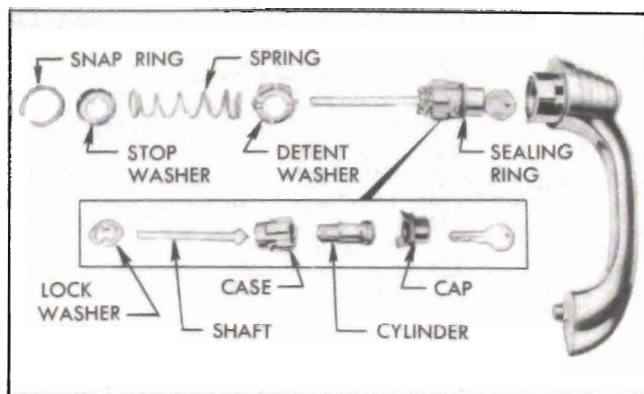

Figure 13-5—Handle and Outside Safety Lock
2. Remove retaining snap ring, then remove stop washer, spring, and detent washer from handle; note the relative position of the stop and detent washers to insure correct reinstallation. See figure 13-5.